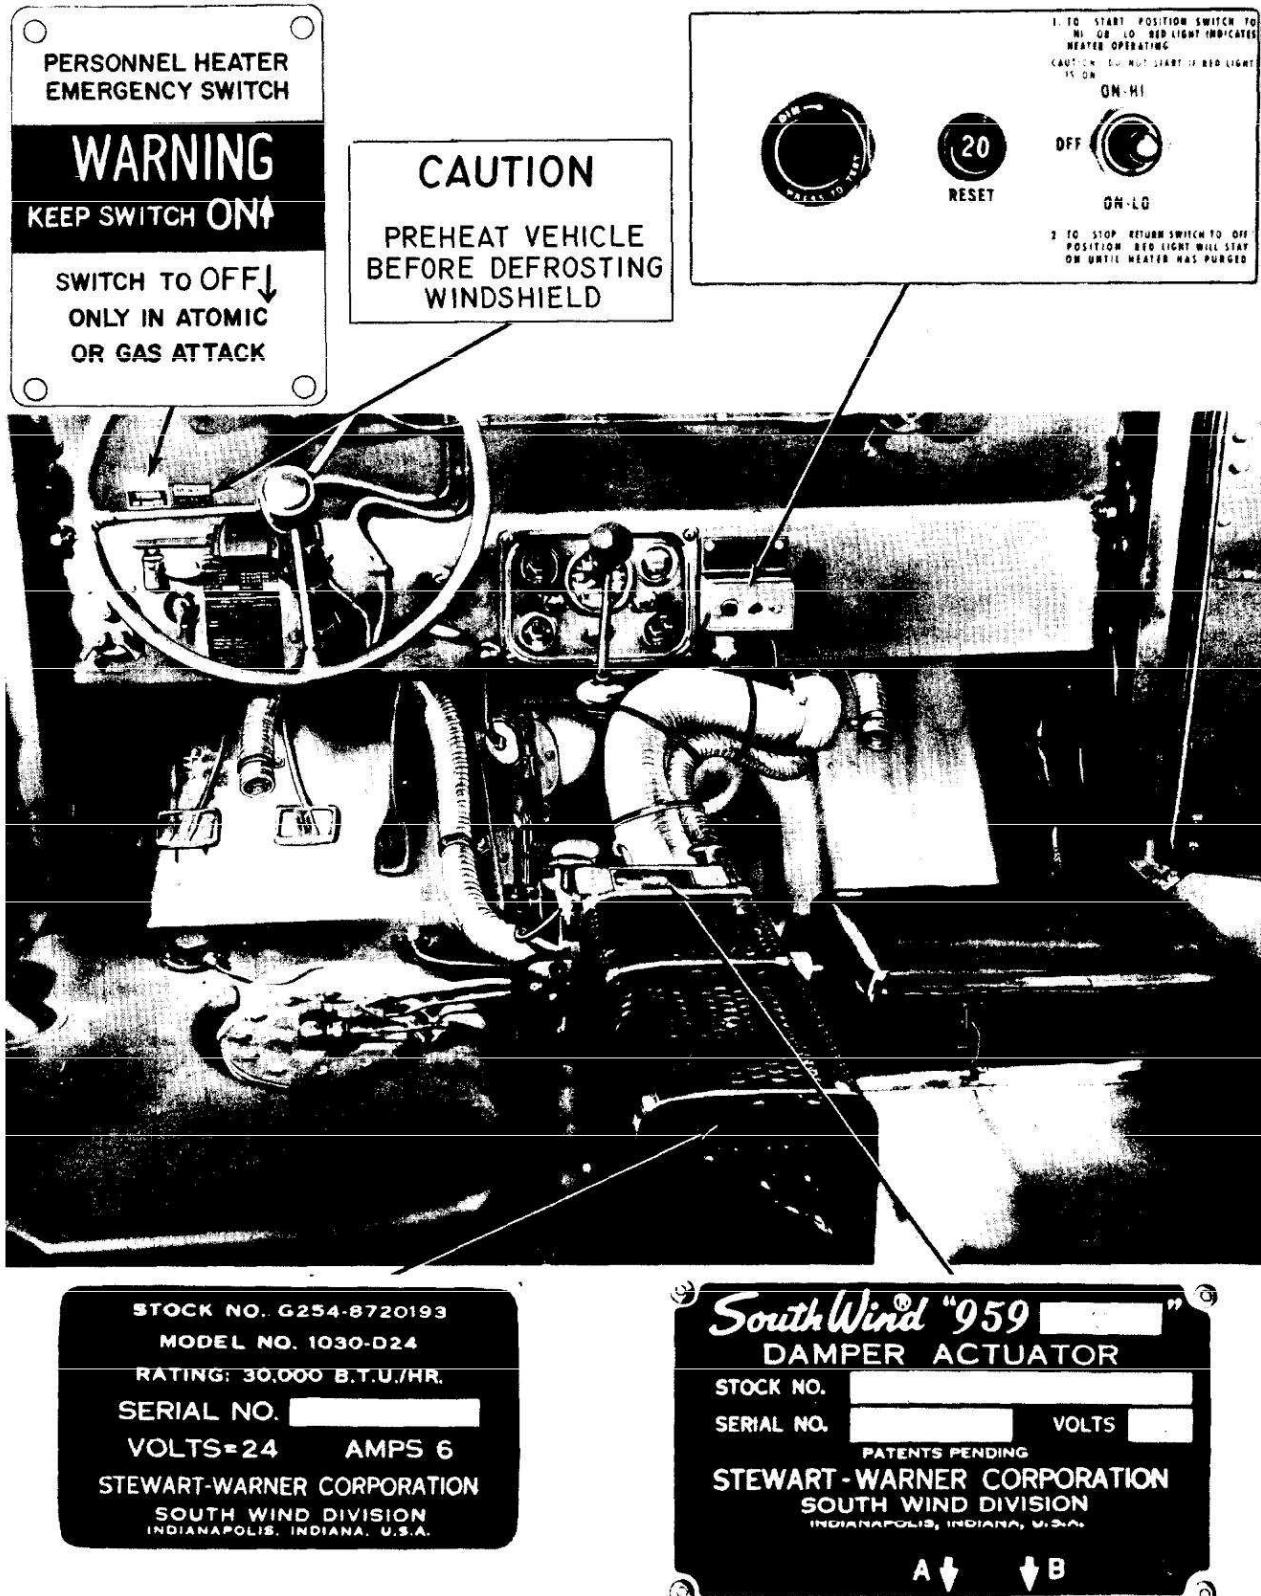

Figure 4-4. Name, caution and instruction plates for winterization kit (-65°F).
g. Name, Caution, and Instruction Plates. The location and details of the heater, name, caution, and instruction plates are shown in figure 4-4.